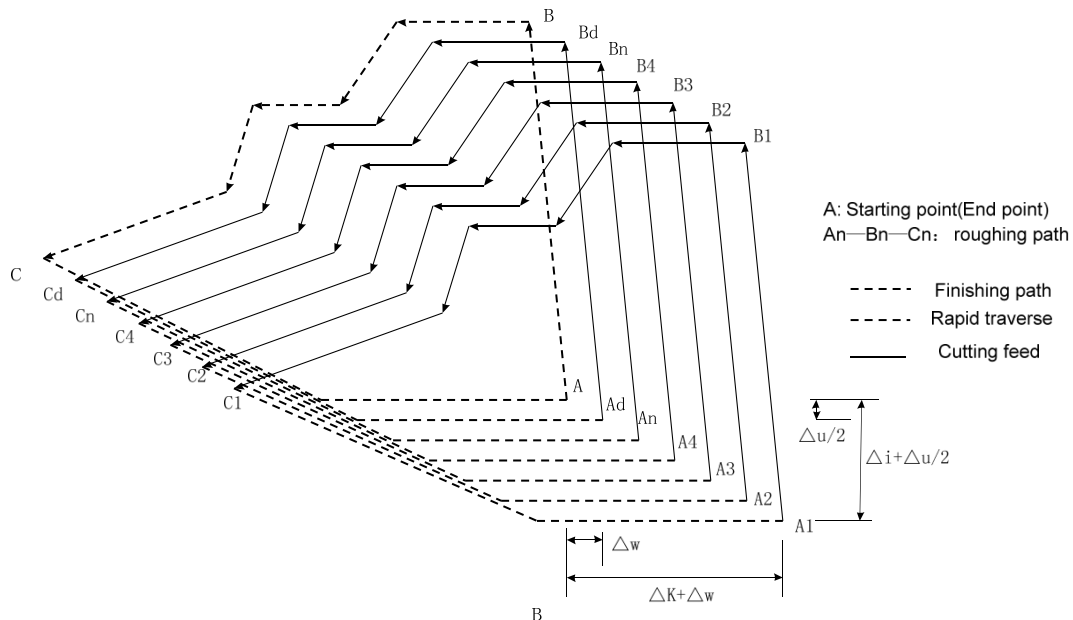

Fig. 3-31 G73 path
**Execution process:** (Fig. 3-31)
① A→A1: Rapid traverse;
② First roughing A1→B1→C1 :